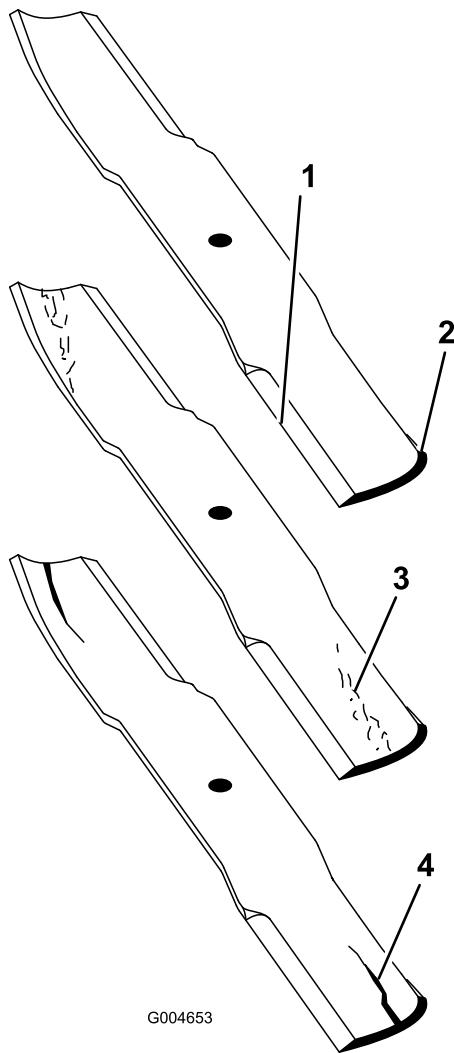

Figure 72
1. Inspect the cutting edges (Figure 72). If the edges are not sharp or have nicks, remove and sharpen the blades. Refer to Sharpening the Blades.
2. Inspect the blades, especially the curved area (Figure 72). If you notice any damage, wear, or a slot forming in this area (Figure 72), immediately install a new blade.